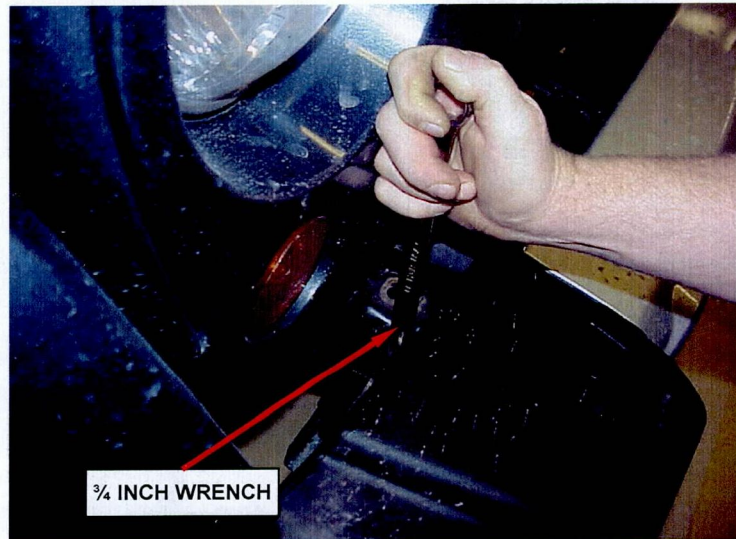

Figure 5 – Tow Bar Bracket Removal
a. Access the tow bar retainer nuts by sliding the front bumper closeout panel to the side opposite the mounting bracket being removed (Figure 5).